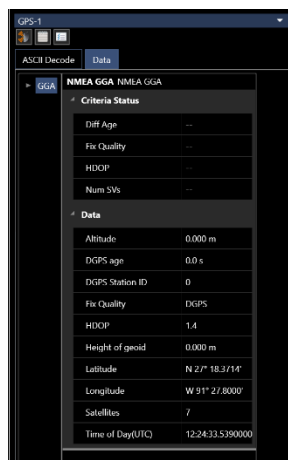

FIGURE 5-16 DEVICE STATUS WINDOW - DATA TAB
- The Data Tab provides a display of the messages detected, the decoded data and the observations created from the data. Figure 5-16 shows the Device Status window, Data Tab for an NMEA Input device.